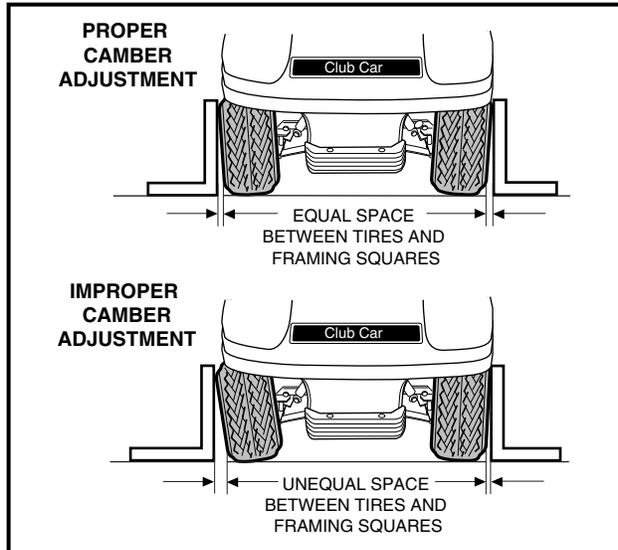
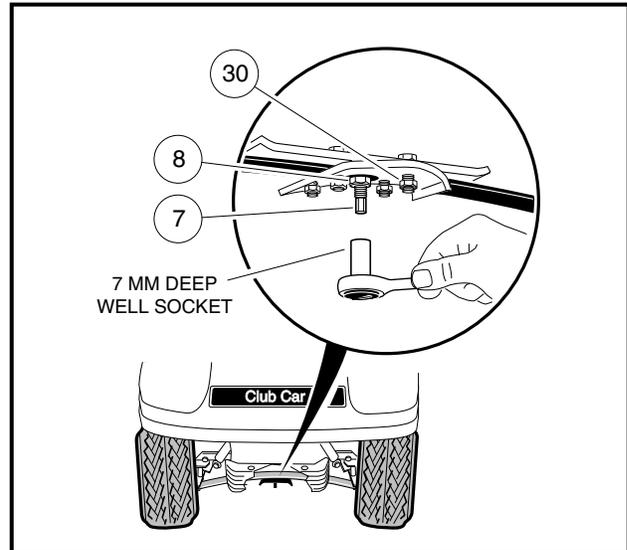
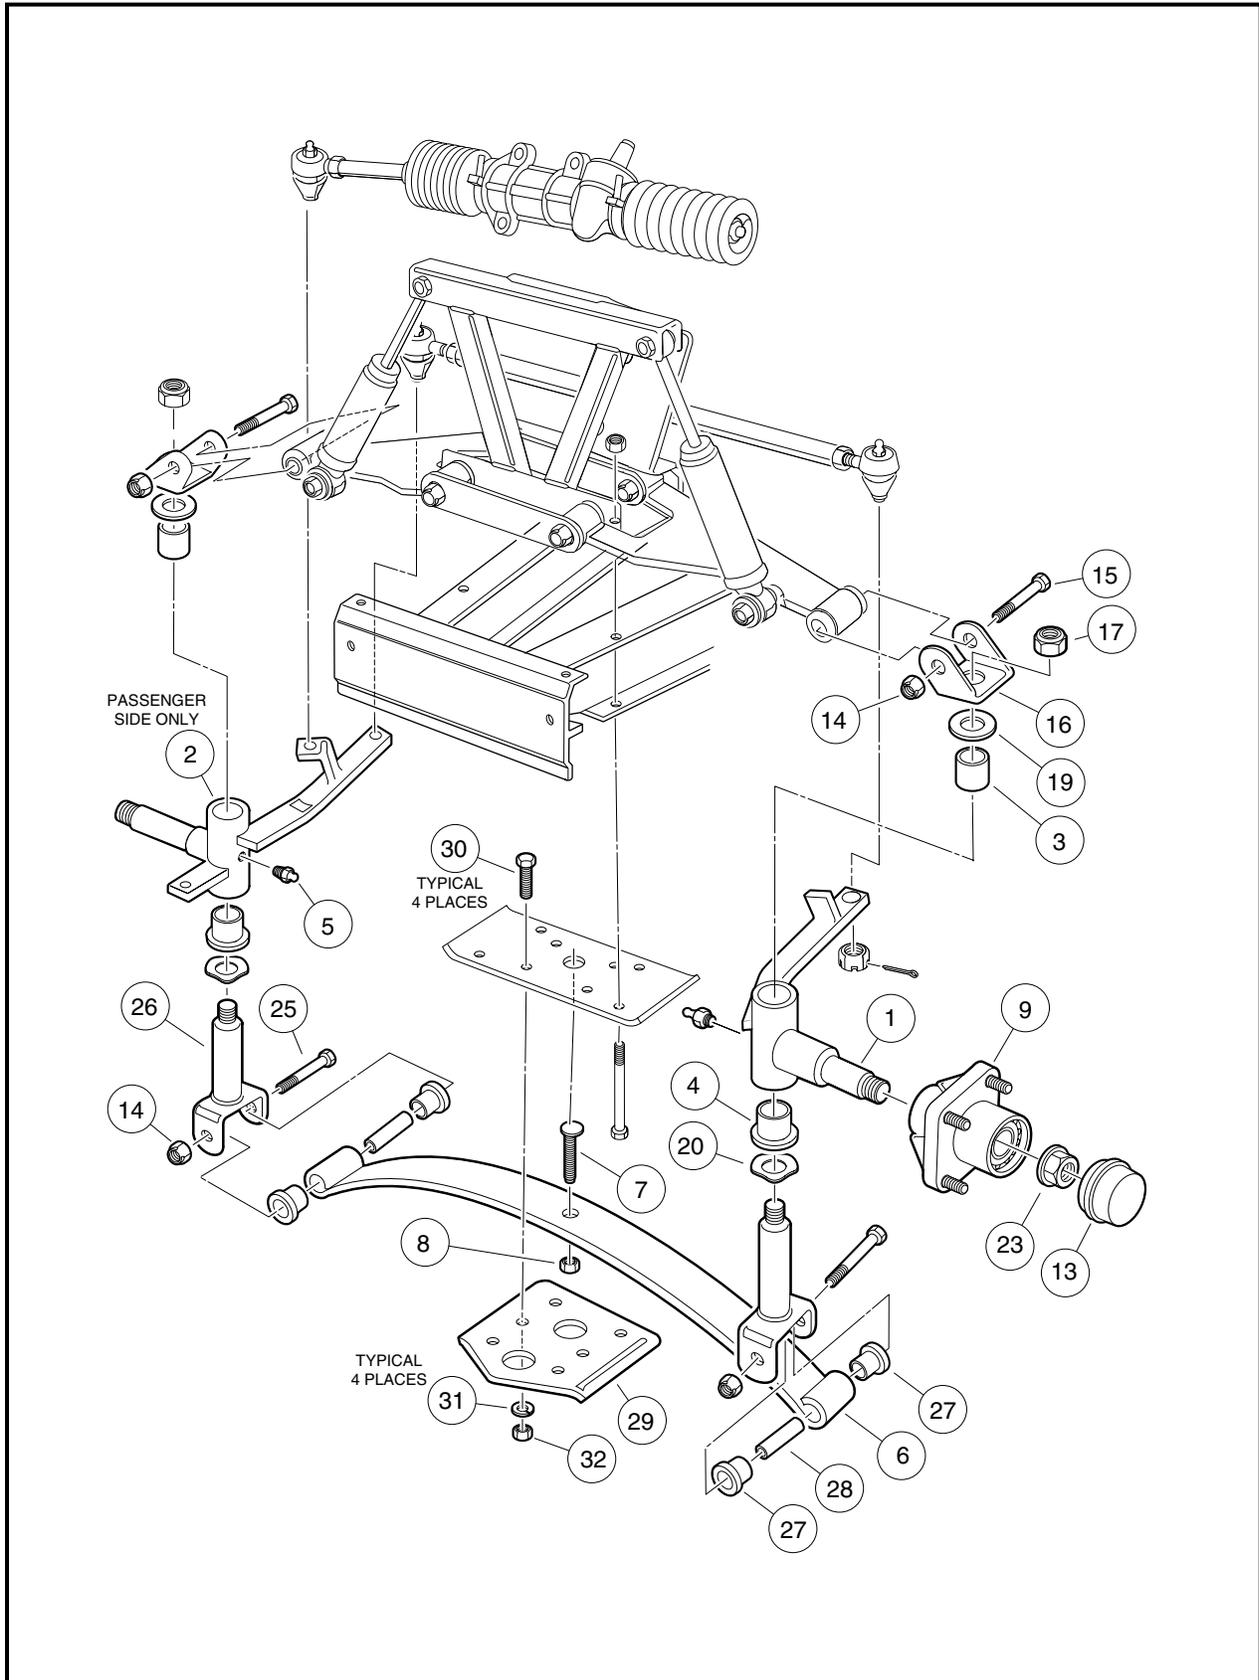

Figure 7-16 Check Camber
Figure 7-17 Adjust Camber
Figure 7-21 Lower Front Suspension Assembly
1. Check each front wheel with a framing square. At the floor (or ground), there should be an equal amount of space between each tire and the framing square (**Figure 7-16, Page 7-15**).
2. Loosen, but do not remove, the four bolts (30) that secure the leaf spring (6) to the bottom spring plate (29) (**Figure 7-21, Page 7-19**). **See also Figure 7-17, Page 7-15.**
3. Loosen, but do not remove, the hex nut (8) on the adjustment eccentric (7) (**Figure 7-17, Page 7-15**) in the center of the spring. **See also Figure 7-21, Page 7-19.**
4. Use a 7mm deep-well socket to rotate the eccentric (**Figure 7-17, Page 7-15**).
5. After adjusting camber, tighten the four spring retaining bolts (30) (**Figure 7-21, Page 7-19**) to 23 ft-lb (31 N·m). Then roll the vehicle forward one full tire revolution and recheck the camber. **See also Figure 7-16, Page 7-15.**
6. Tighten the hex nut (8) on the adjustment eccentric (7) to 10 ft-lb (13.5 N·m) (**Figure 7-21, Page 7-19**) **See also Figure 7-17, Page 7-15.**
3. Remove the nuts (14) and bolts (25) from the bottom of each kingpin (26) (**Figure 7-21, Page 7-19**).
4. Remove the four bolts (30), four nuts (32), four lock washers (31), and bottom spring plate (29).
5. Remove tapered leaf spring (6).
6. Check the condition of the urethane bushings (27) and steel bushings (28). Replace any that are worn or damaged.
1. Install urethane bushings (27) and steel bushings (28) into leaf spring eyes (**Figure 7-21, Page 7-19**).
2. Install tapered leaf spring (6), bottom spring plate (29), four bolts (30), four lock washers (31), and four nuts (32). Using a crisscross pattern sequence, tighten bolts to 23 ft-lb (31 N·m).
3. Install spring in kingpins (26) with bolts (25) and nuts (14). Tighten to 17 ft-lb (23 N·m).
3. Remove the nut (17) and lock washer (if present) from the top of the kingpin (26) (**Figure 7-21, Page 7-19**).
4. Raise the upper clevis (16) from the kingpin (**Figure 7-21, Page 7-19**).
5. Remove the thrust washer (19).
6. Slide the spindle off the kingpin (26).
7. Remove the wave washer (20) and inspect it. If the washer is broken or has a wave bottom to wave crest height dimension of less than 0.040 inch (0.10 cm), it must be replaced.
8. Remove bolt (25) and nut (14) from bottom of kingpin (26) and remove kingpin.
2. Install the kingpin (26) over the leaf spring eye. Insert the bolt (25) and install the nut (14) (**Figure 7-21, Page 7-19**). Tighten the bolt to 17 ft-lb (23 N·m).
3. Install the wave washer (20) on the kingpin.
4. Install the steering spindle on the kingpin. Then install the thrust washer (19), upper plate clevis (16), and nut (17). If lock washer was present, do not reinstall. Tighten the nut to 40 ft-lb (54.2 N·m) (**Figure 7-21, Page 7-19**).